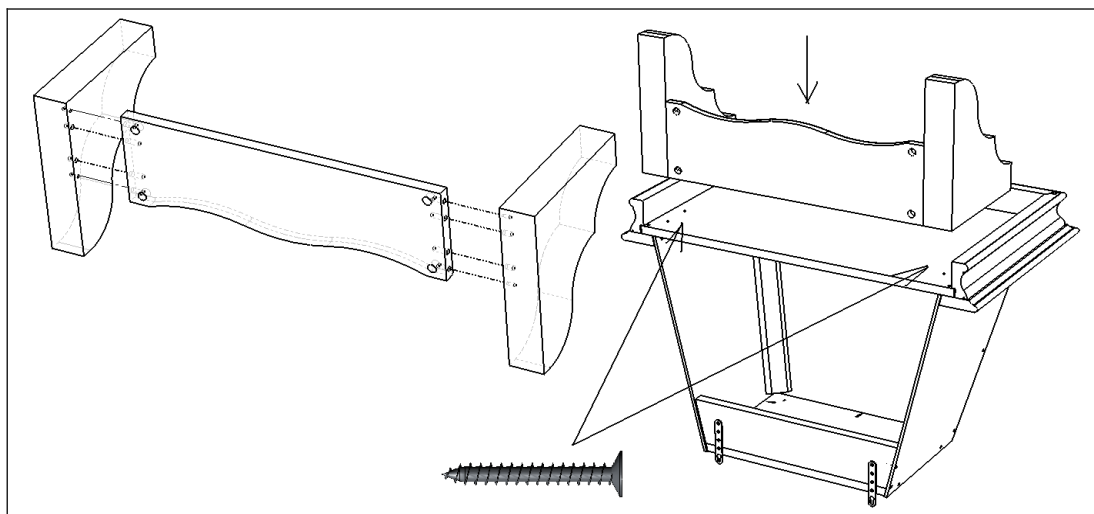

Fig. 21
2. Fixation of ducts with a decorative plate (Fig. 21):